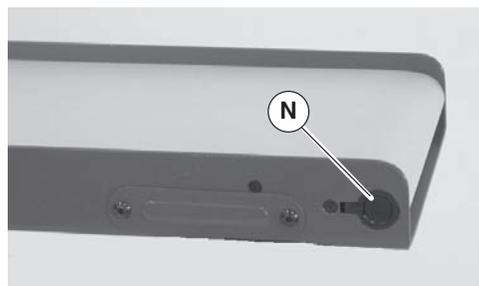

Figure 46
- Install plastic plug (Figure 46, item N).